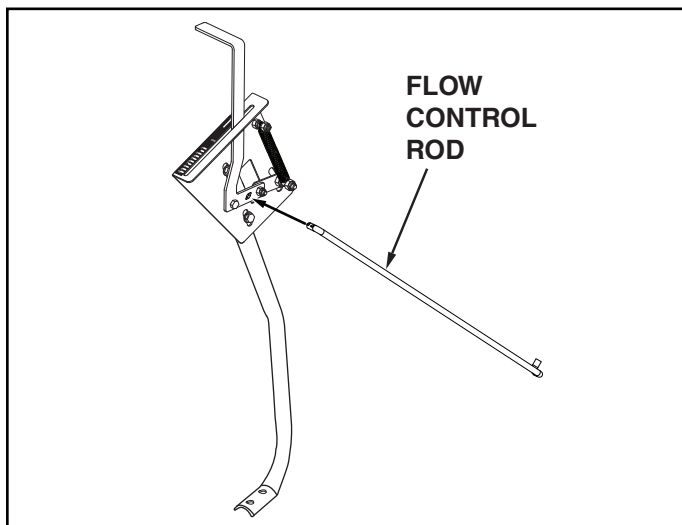

FIGURE 5
11. Insert the pinched end of the flow control rod through the hole in the in the flow control arm. See figure 5.